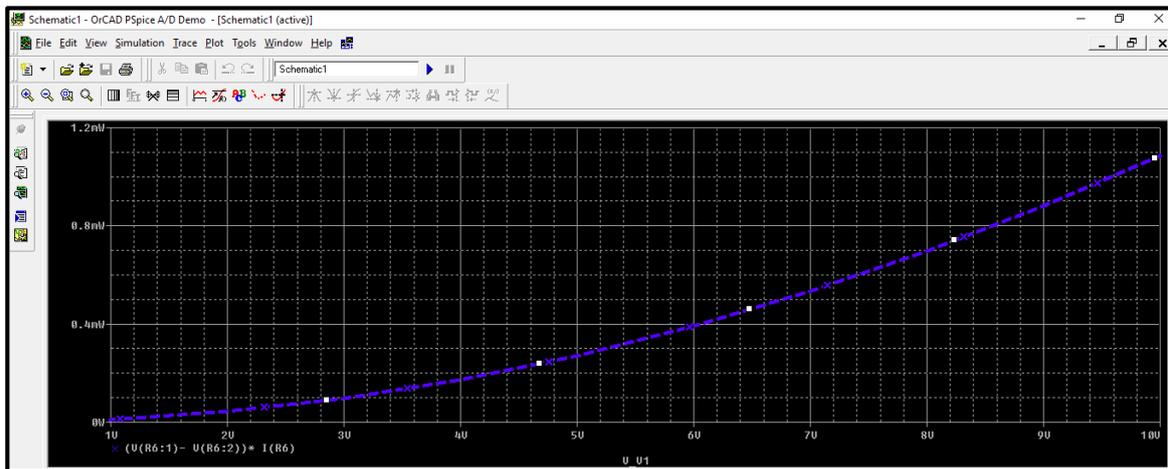

Figure.35
- After changing trace properties, the simulation output window will be shown in figure.35, always make sure to increase the trace width in your prelab.